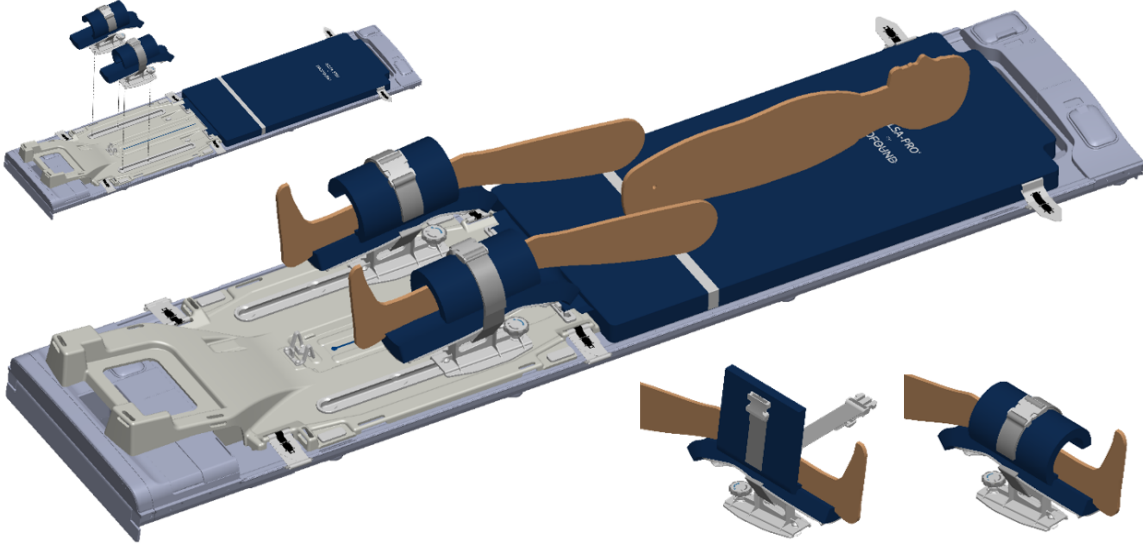

Figure 19: Initial patient positioning and attachment of leg supports
4. Have an assistant lift the patient's legs one at a time while you set up the leg supports (Figure 19):